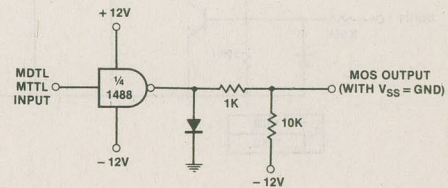

Figure 14—MDTL/MTTL-to-MOS Translator
1. Output Current Limiting—this enables the circuit designer to define the output voltage levels independent of power-supplies and can be accomplished by diode clamping of the output pins. Figure 14 shows the 1488 used as a DTL to MOS translator where the high-level voltage output is clamped one diode above ground. The resistor divider shown is used to reduce the output voltage below the 300 mV above ground MOS input level limit.